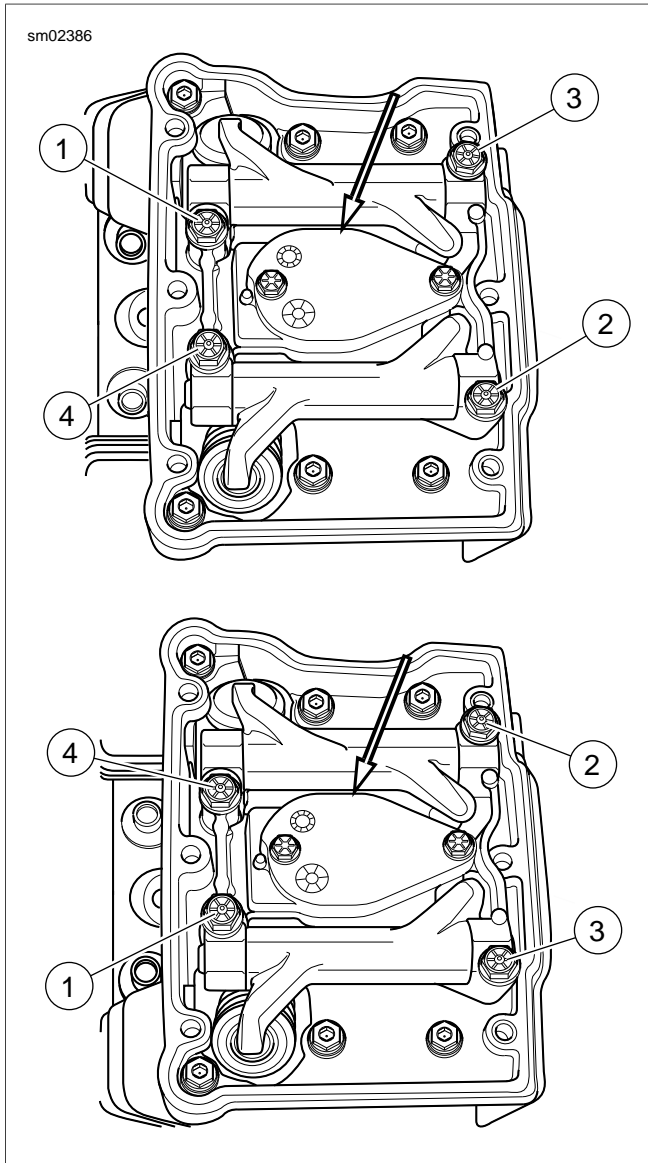

Figure 3-42. Rocker Arm Torque Sequence
2. See Figure 3-42. Place the rocker arm support plate assembly into the rocker housing. Loosely install the four rocker arm support plate bolts with flat washers.